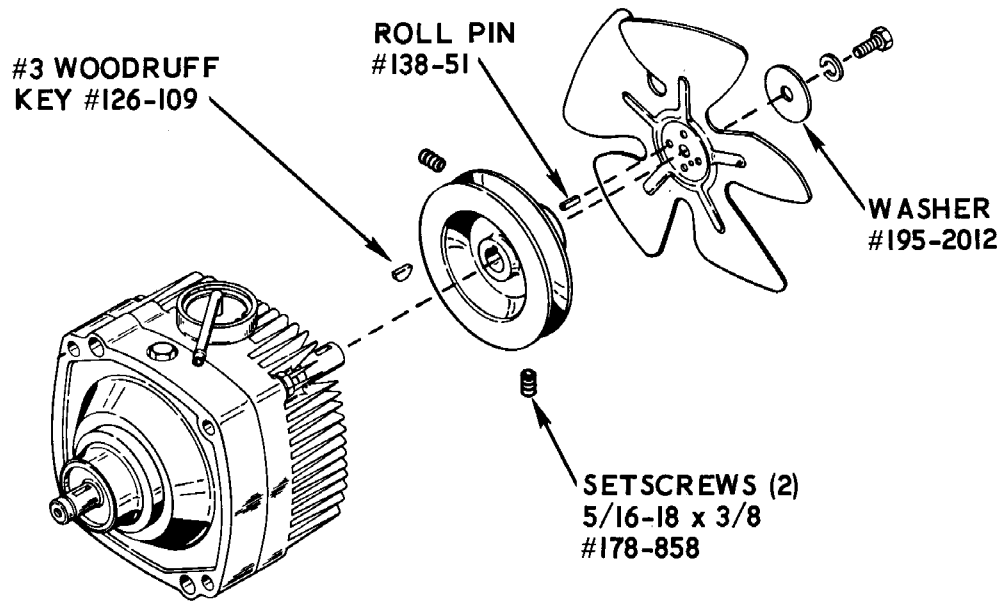

Figure 2. Pulley and Fan Assembly
1. Remove the screen and fan, Figure 2.
2. Loosen the setscrews on the input pulley and remove the pulley, Figure 2.